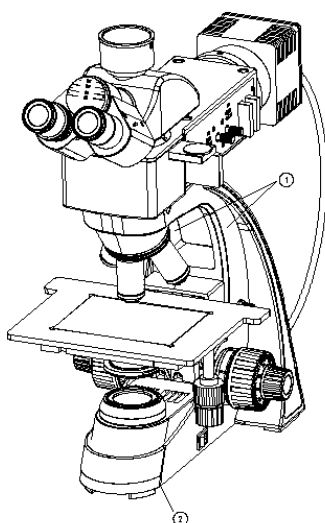

Fig. 1
3. When moving the microscope, grasp the handle of the microscope arm with both hands ① and support the bottom ② with care. (See Fig. 1)